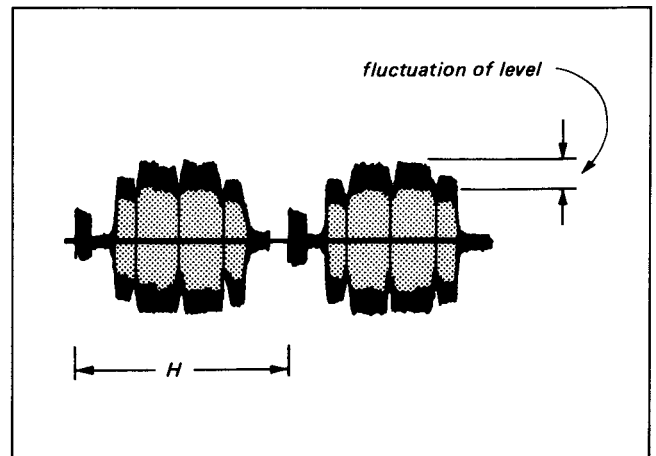

Fig. 5-16. JOG EXCH. C. level adjustment
- i) Adjust RV013 so that the fluctuation of level is minimum. (See Fig. 5-16.)